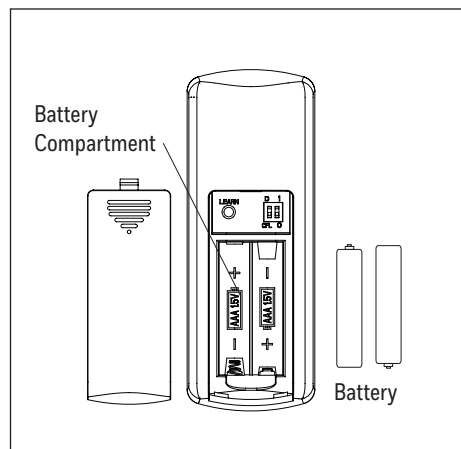

Figure 5.8
8. Use a flat-head screwdriver, if necessary, to remove the battery cover from the back of the remote found in remote pack. Insert the battery into the remote; ensure polarity of battery matches the polarity indicated in the battery compartment -- positive (+) to positive (+) and negative (-) to negative (-). Replace the back cover and press the fan on/off button on the remote to ensure the LED indicator illuminates and the remote turns on the fan (Figure 5.8).